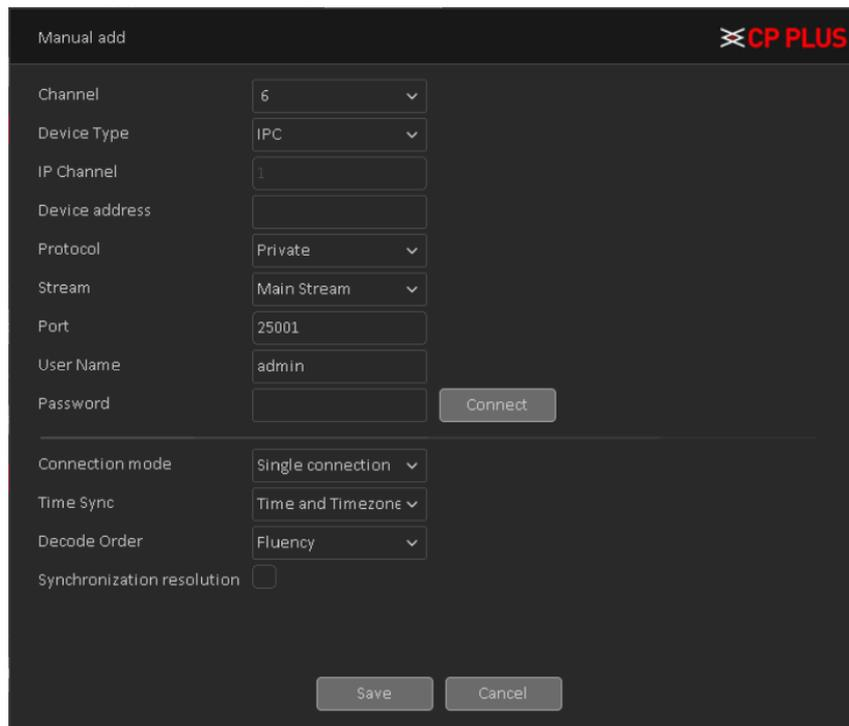

Figure 4.6
- ✓ **[Manual Add]** Click it to add the IPC manually at custom level. See Figure 4.6